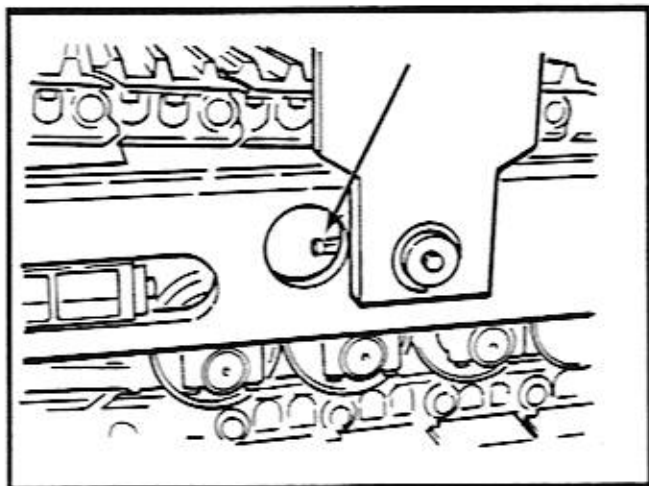

Figure 9-4. Track Idler Hydraulic Adjuster
1. Using a grease gun, fill the hydraulic adjuster with grease forcing the track idler to extend to its fullest. Refer to Figure 9-4.